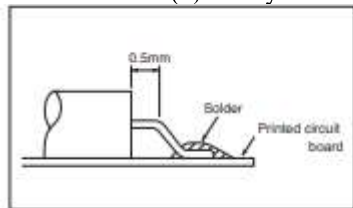

Figure 5
- (1) Bend the lead so that the lead will remain straight for more than 0.5mm from the case when soldering a crystal unit after bending. If not, the glass may be cracked (see Figures 5 and 6).